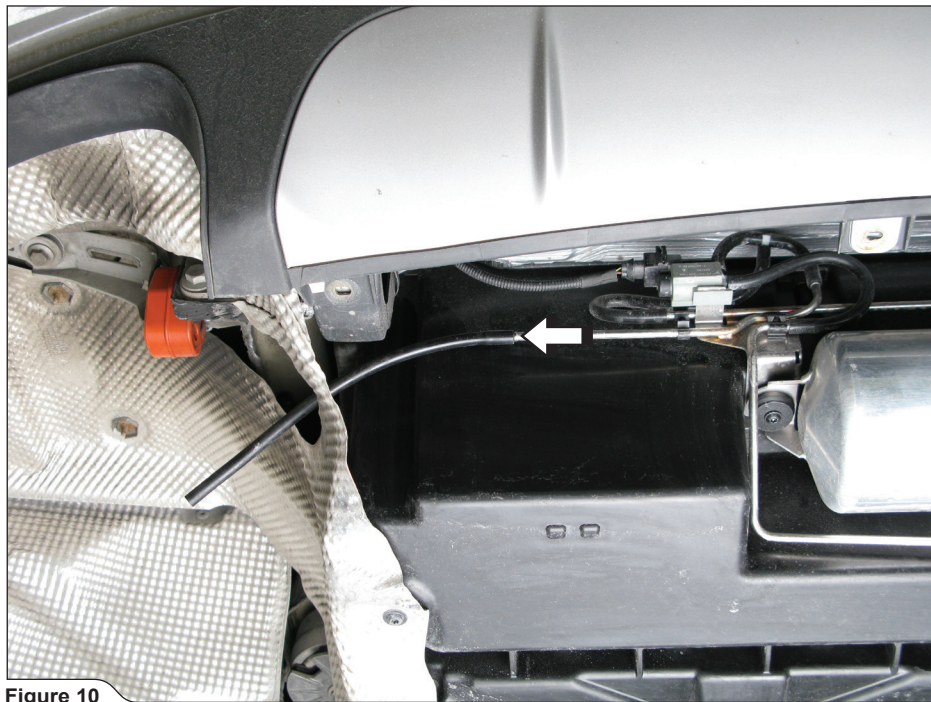

Figure 10
8. **For vehicle models equipped with original exhaust system flaps only:** remove the original rubber vacuum hoses off the metal vacuum pipes on both sides of the vehicle (**Figure 10, 11**).